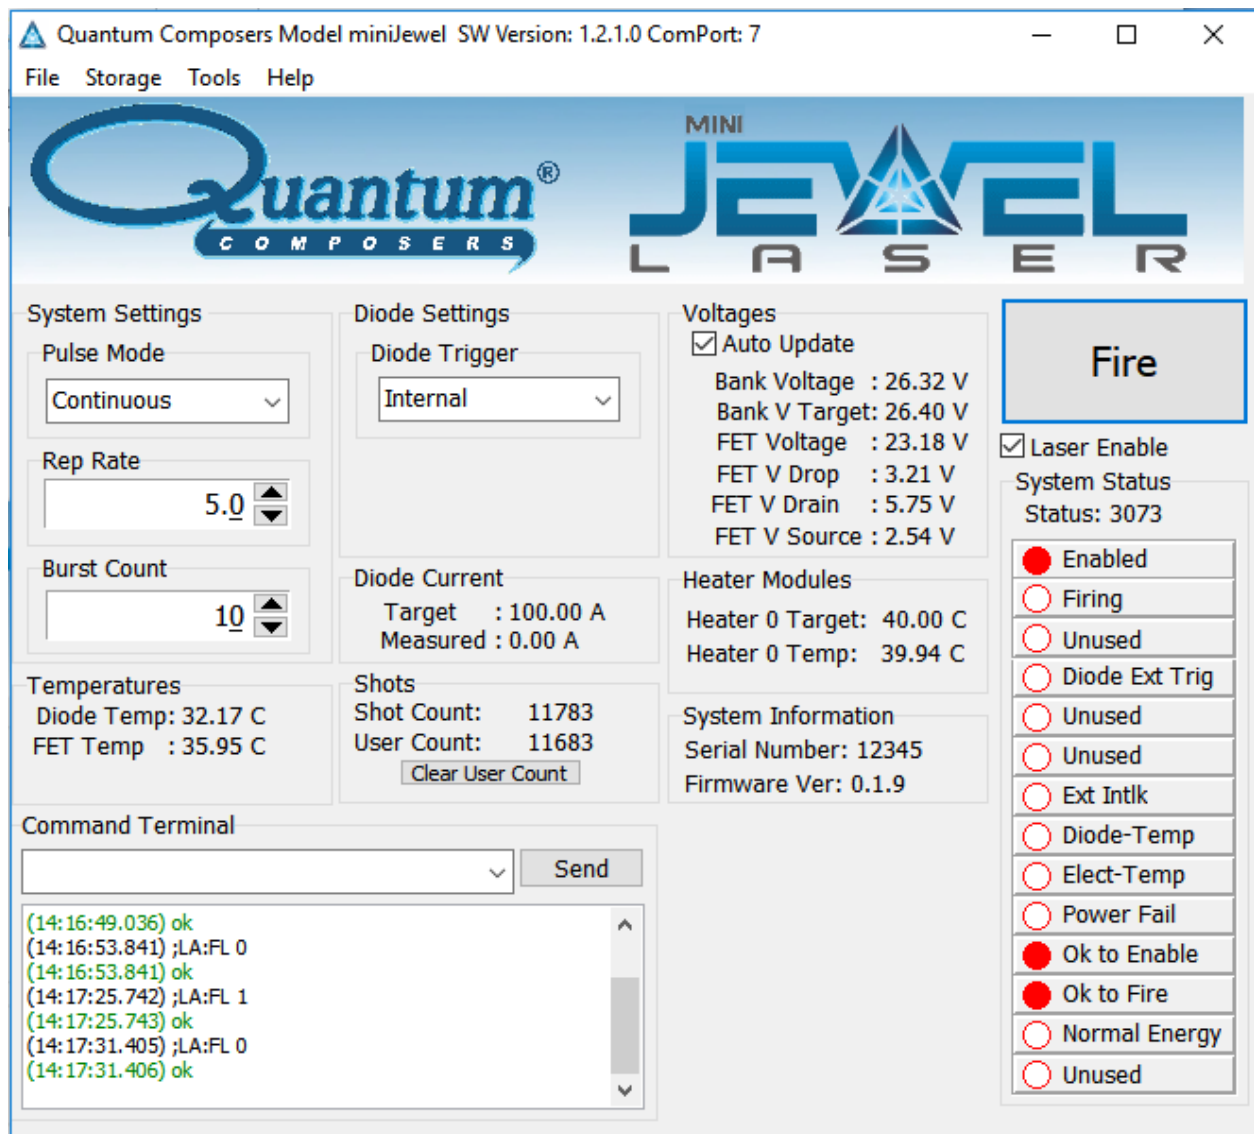

Figure 11: MiniJewel Software Application Main Window
- The MiniJewel Laser application will be displayed as shown in Figure 11.